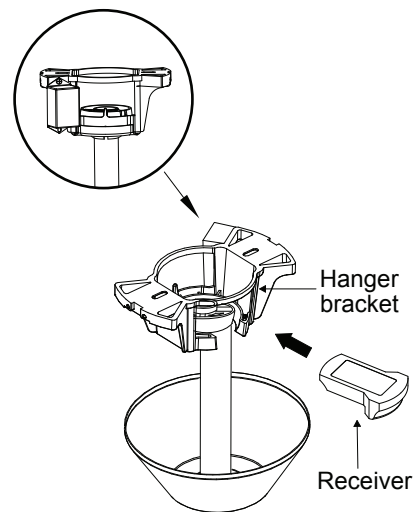

Fig. 13
Step 1. Insert the receiver into the ceiling mounting bracket with the flat side of the receiver facing the ceiling. (Fig. 13)